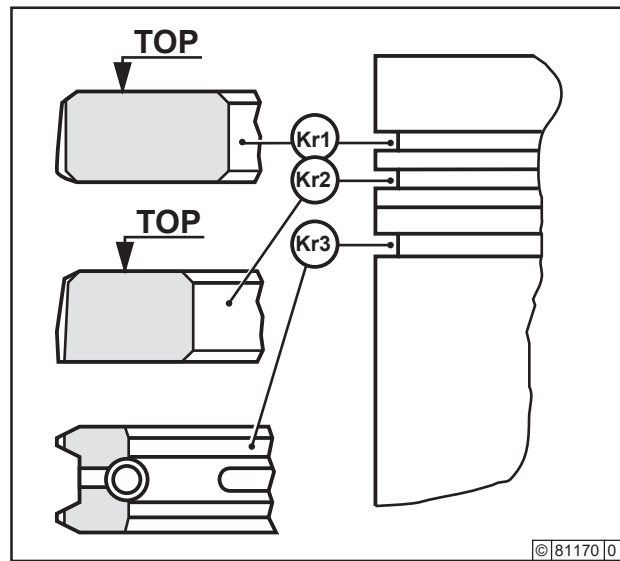

Fig. 2 Fitting the piston rings
- Use piston ring pliers to mount piston rings at the piston in accordance with the piston ring configuration illustrated in Fig. 2.